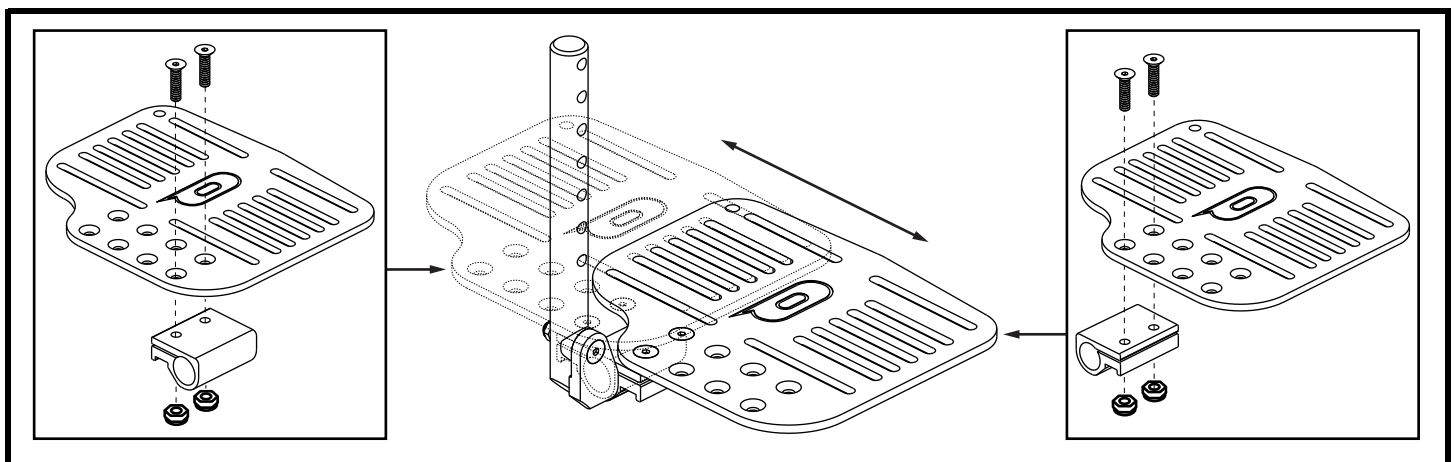

Figure 31. Foot Plate Depth Adjustment
1. Remove the screws and nuts from the foot plate assembly. See **figure 31**.
3. Reposition the foot plate on the foot plate adapter to achieve the desired depth. See **figure 31**.